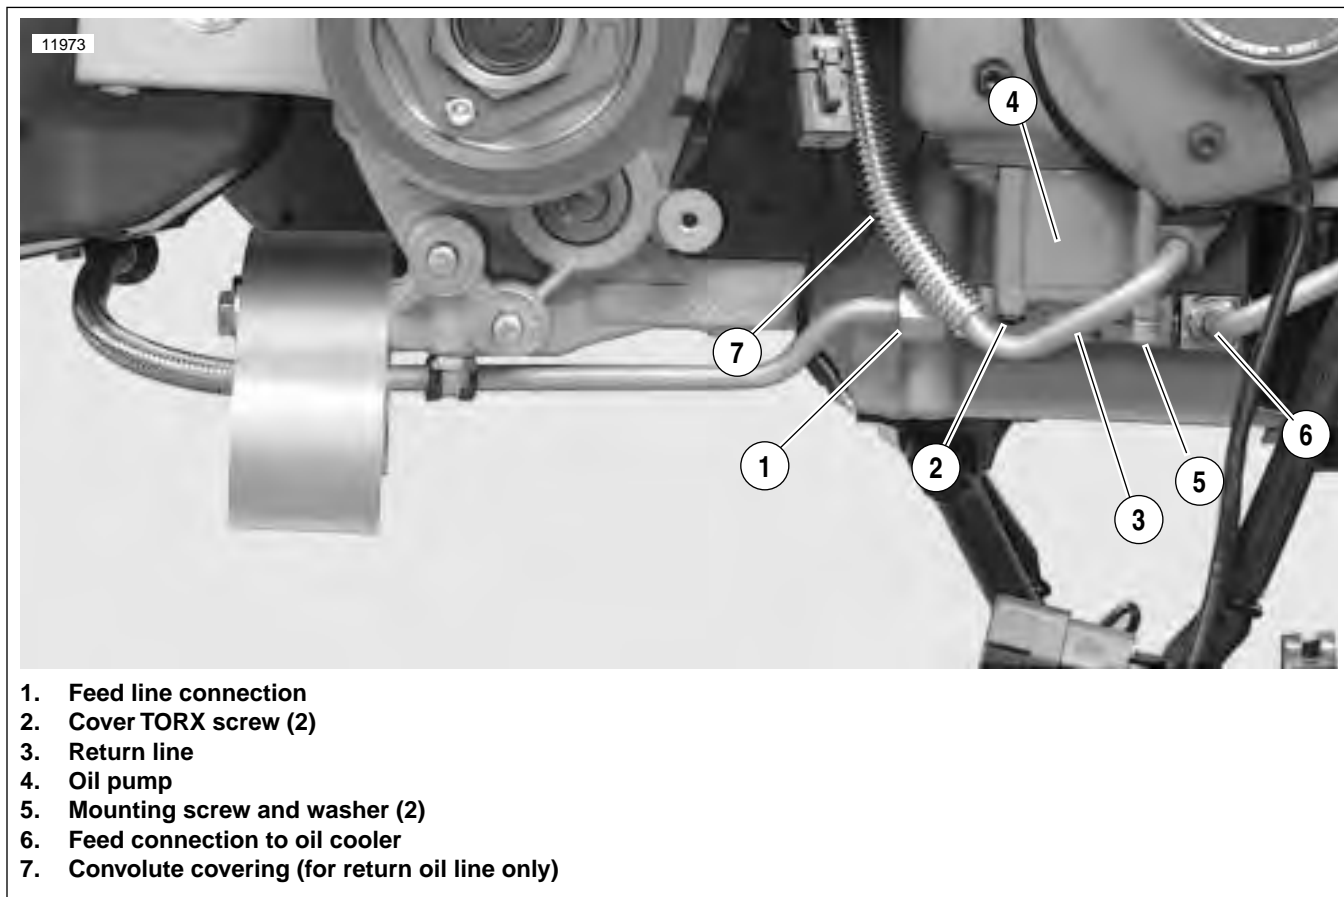

Figure 3-119. Oil Pump Hardware
4. See Figure 3-119. Disconnect feed line connections (1, 6) on both sides of the oil pump.
5. Detach return line connection (3).
6. Carefully remove mounting screws (5) and washers only. Pump will drop with screws removed. Discard mounting gasket.
7. Remove cover TORX screws (2). Lift cover off body.
10. See Figure 3-119. Attach return line connection.